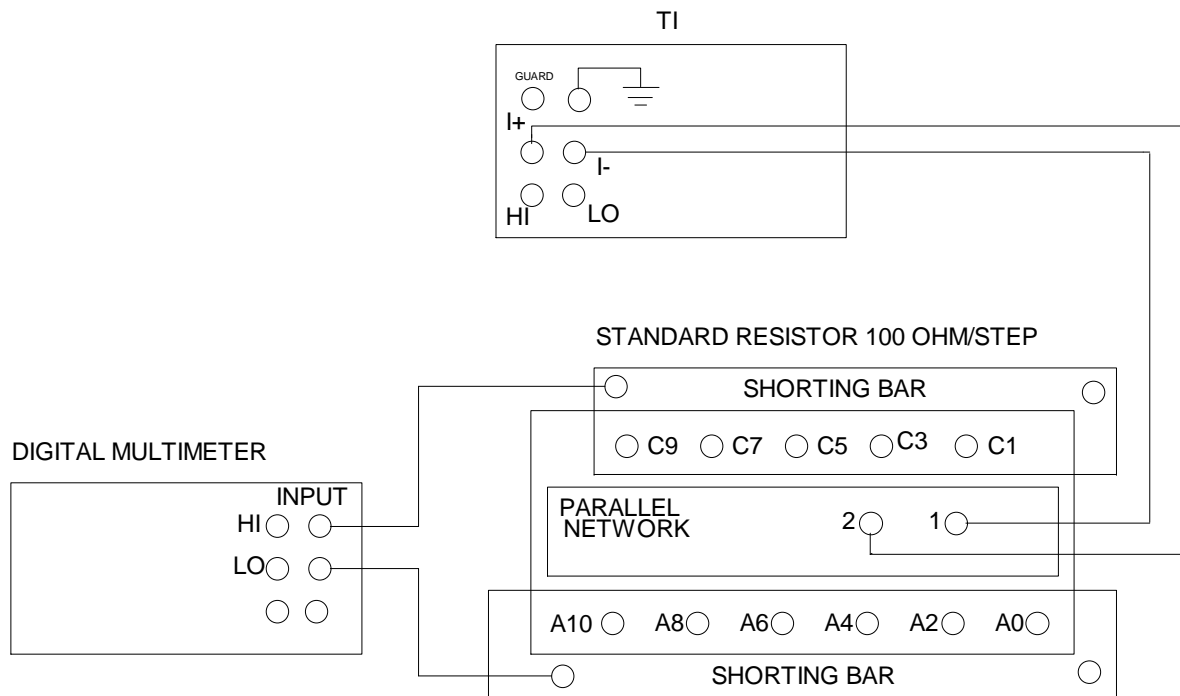

Figure 5.
4.6.17 Change the test setup as shown in Figure 5.
4.6.19 Replace Standard Resistor 100 Ω/STEP with Standard Resistor 10 Ω/STEP in Figure 5.